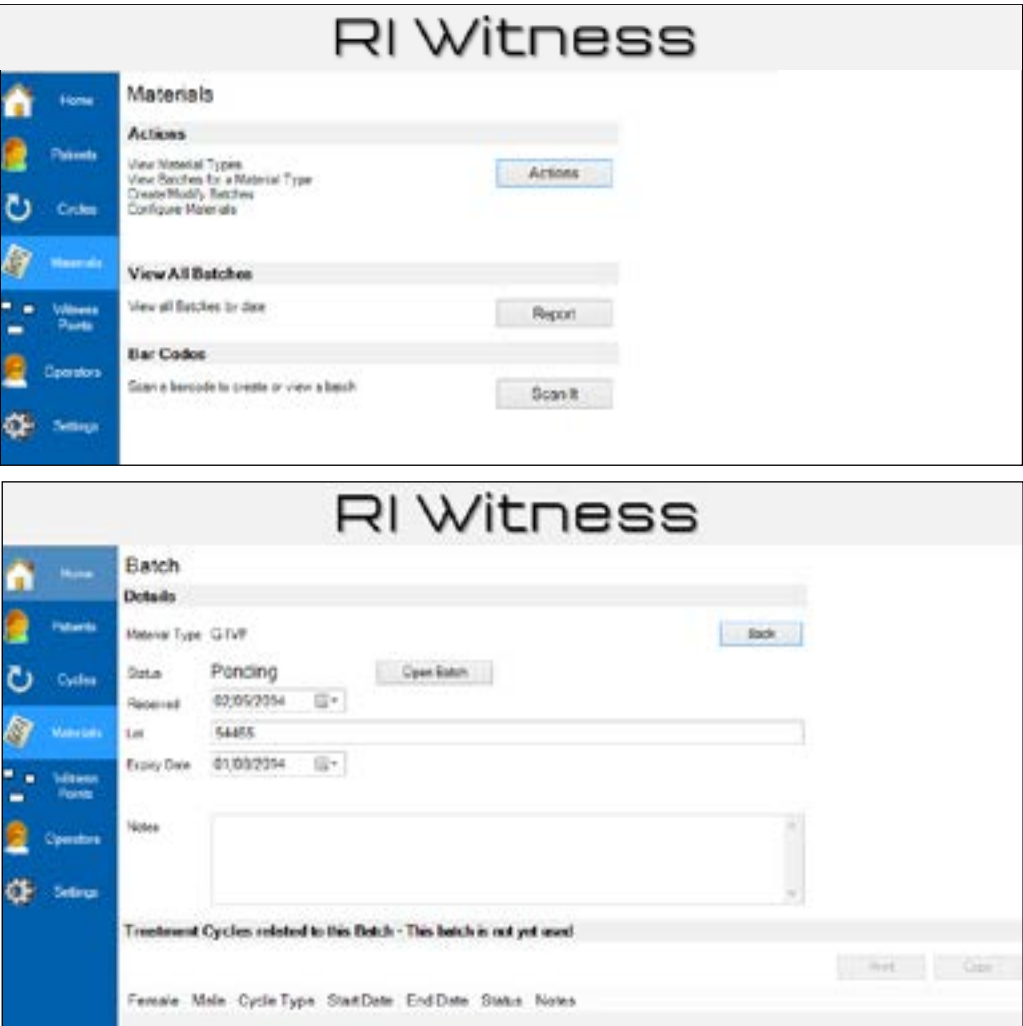

Figure 8-6 Creating a new batch by scanning a barcode
3. A list of existing batches of this material is shown. Click **Add New Batch** to open the batch details window for a newly created batch and fill in the batch details. See Figure 8-6.